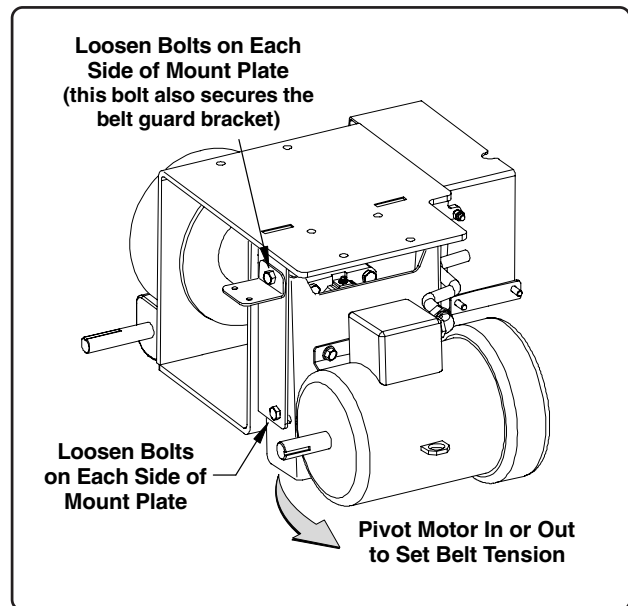

Fig. 18
2. The bearing can be accessed from the bottom side of the winch motor mount frame (See Fig. 18).
3. To adjust belt tension, loosen the four bolts securing the motor mount plate, two bolts at top and two bolts at bottom (one of the top bolts is also used to secure the belt guard bracket as shown in Fig. 18).